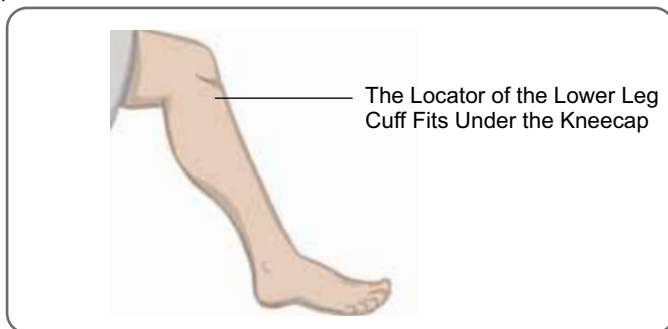

Figure 6-7: Recommended Knee Angle for Positioning the Lower Leg Cuff
1. While seated, slightly straighten your leg as shown in Figure 6-7. The outline of your kneecap should be clearly defined. (Place your foot on a footrest, if necessary.)